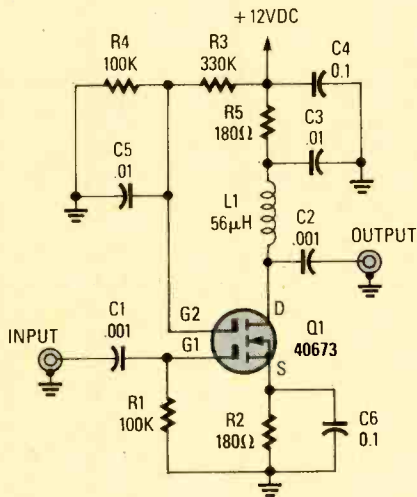

Fig. 2. Automatic or manual gain control is easy to obtain with dual-gate FET's. Here the gain is set to a constant value by tying G2 to a specific voltage.
Fig. 2. Here is the full-size artwork for the Galvanic Skin Response Monitor. The pattern can easily be duplicated on a printed-circuit blank (unetched board) using dry-transfer electronic patterns, or simply drawn on a blank with a permanent-ink marker.
Another FET WBA is shown in Fig. 2. That circuit is based on the dual-gate MOSFET (RCA 40673, or equivalent). The 40673 has two gate circuits. In most cases, gate G1 is used for the signal
input, while gate G2 is used for automatic gain control (AGC). The circuit of Fig. 2 is a grounded-source amplifier. The drain circuit is similar to that of Fig. 1. The input circuit applied to gate G1 is merely an RC-coupled network consisting of a 100k resistor and a 0.001-μF capacitor. The gain-control gate (G2) is biased to full on by a voltage derived from a resistor voltage divider (R3/R4). If gain control (manual or automatic) is required, then a variable voltage can be applied to G2 instead of a fixed voltage.
Fig. 2. If all of the inputs to an OR gate are first inverted (A), the output of the gate is identical to the output of a NAND gate. An AND gate can be converted to perform the NOR function by adding inverters in series with all inputs to the gate (B).